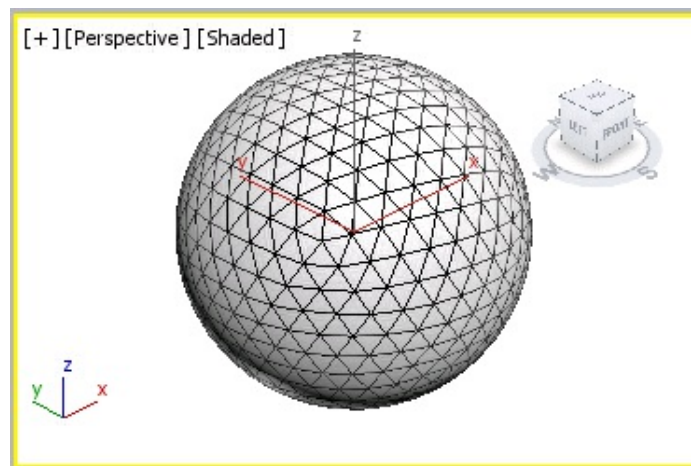

Figure 8-113 The golf ball geometry zoomed in the Perspective viewport
1. Activate the Perspective viewport. Choose the **Zoom** tool and zoom in the Perspective viewport to view *golf ball*, as shown in Figure 8-113.